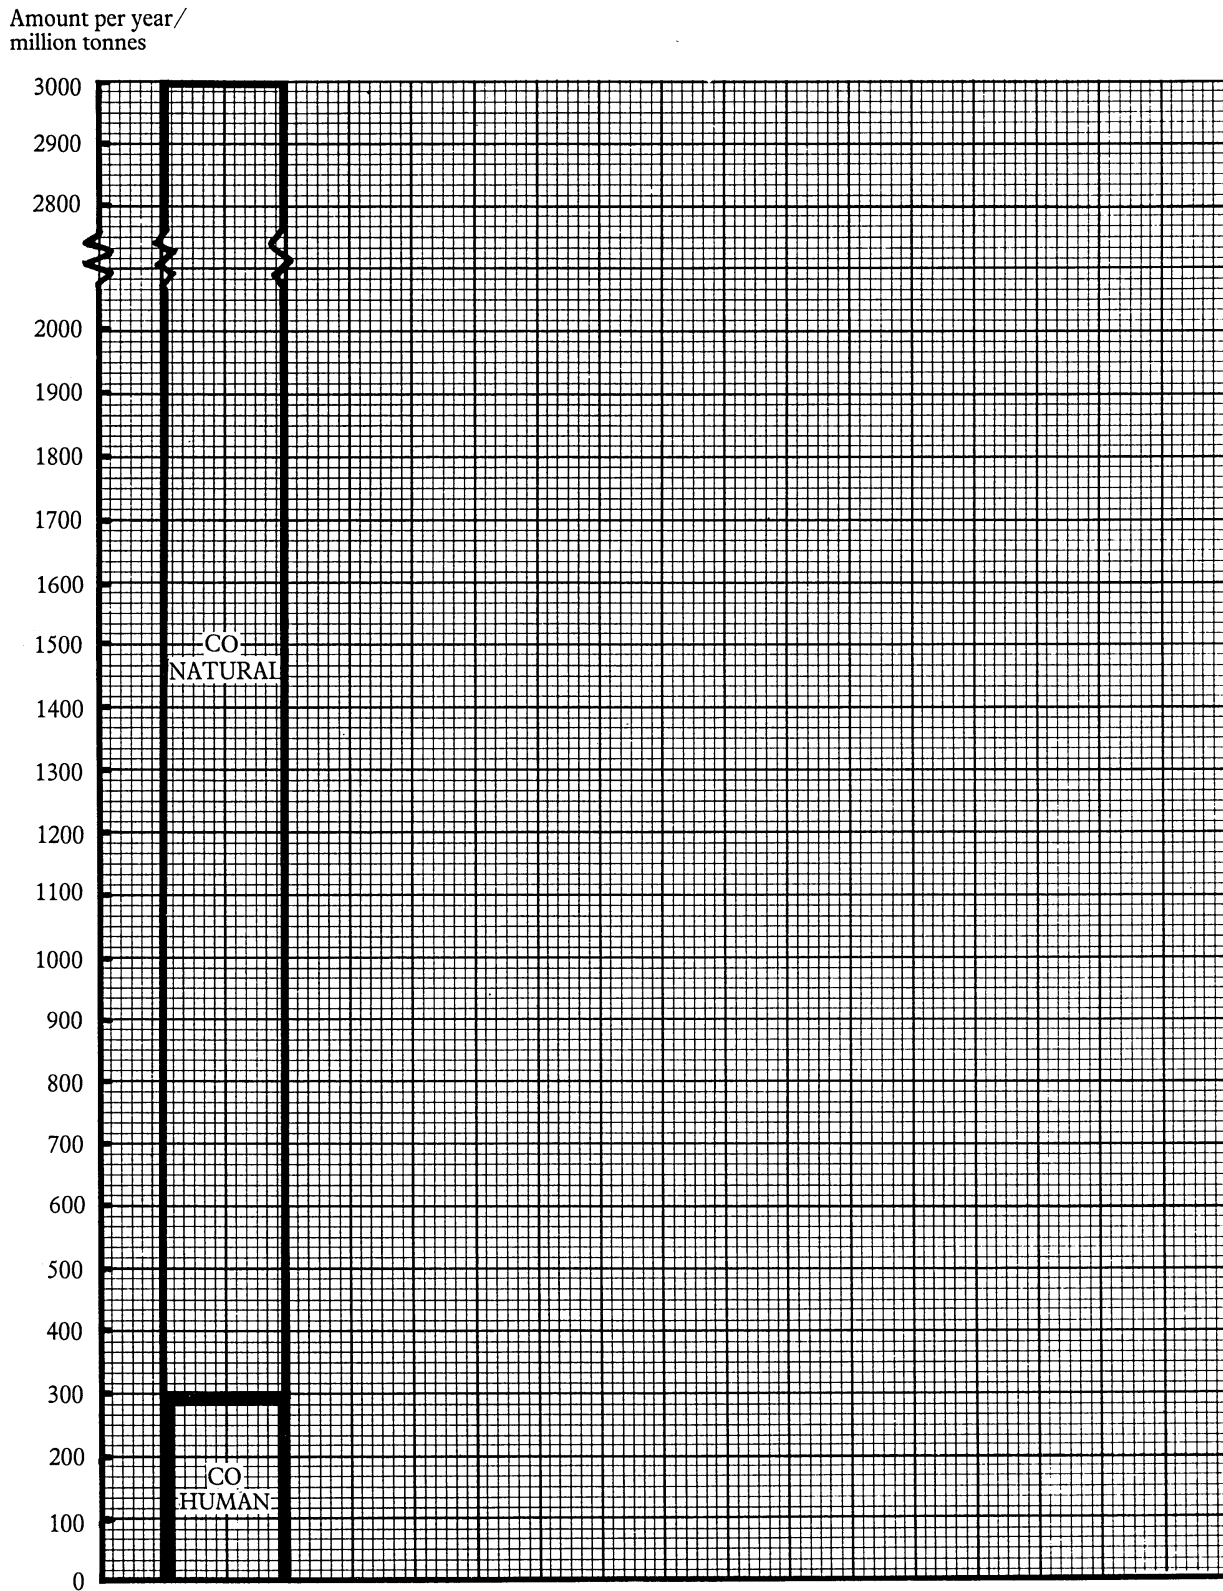

Figure 2 A bar chart showing amounts of different pollutant gases produced per year
- 1 Use the figures in Table 2 to plot a bar chart showing the amount of each gas made by natural sources each year. Use the axes on Figure 2 on the next sheet. The bar for carbon monoxide has already been done for you.